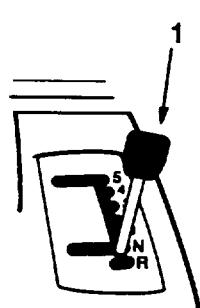

Figure 7
3. Move the ground speed selector into neutral "N" (Fig. 7).